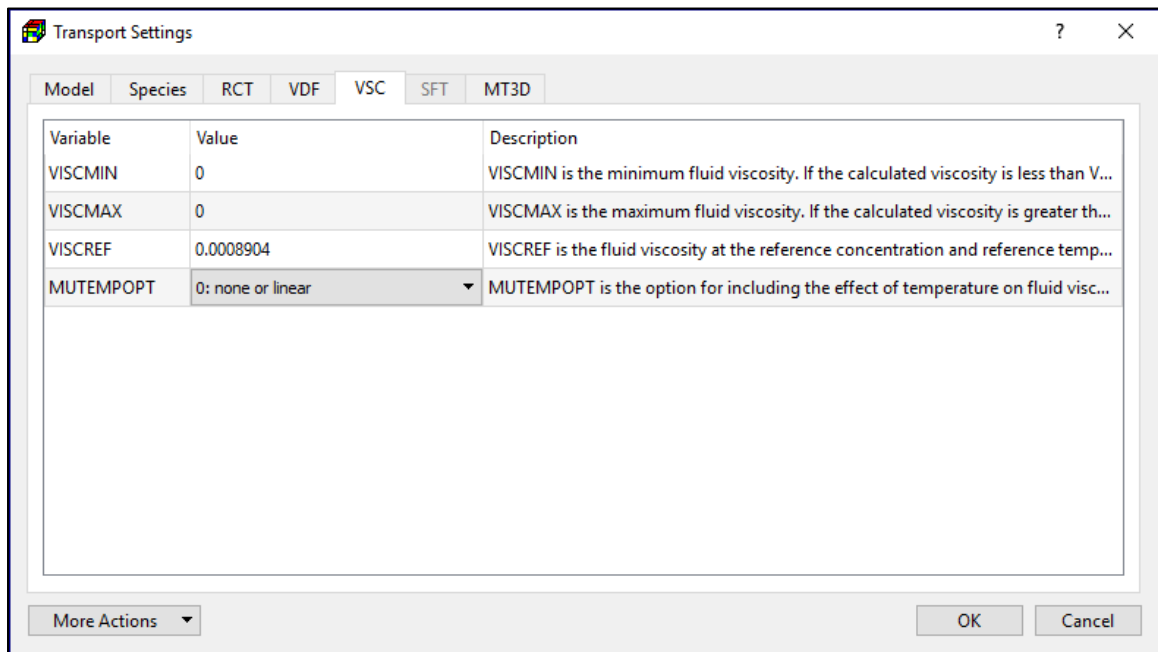

Figure 112. The VSC tab of the Transport Settings dialog box
6. **VSC Tab** (Figure 112) contains Options for the Viscosity Package of SEAWAT.